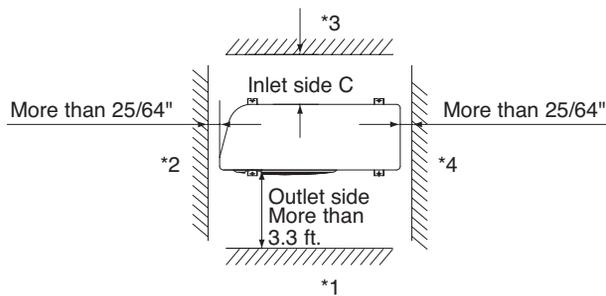
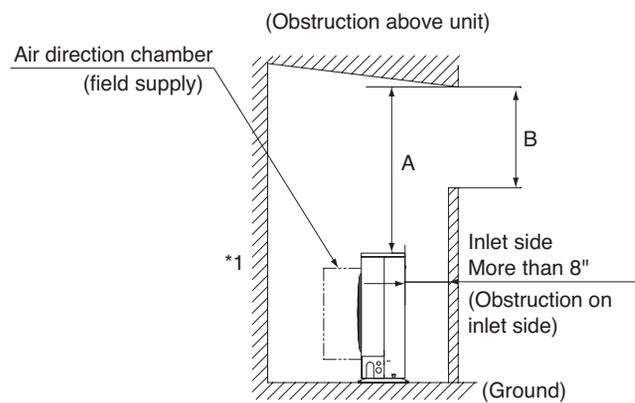

Fig. 2-2
Fig. 2-3
- allow enough room around the unit for air intake/exhaust and possible maintenance. (Fig. 2-2)
- Concerning inlet-side distance "C" (Fig. 2-2) The minimum for distance "C" is 6" if there are no obstructions on the outlet side (wall \*1 side) and \*2 or \*4 is not present. In all other cases, the minimum for distance "C" is 8".
- If wall \*1 is on the outlet side (Fig. 2-2), or if obstructions are present on all 3 sides: \*2, \*3, and \*4 (Fig. 2-2), then the minimum distance for "A" and "B" is 80" (Fig. 2-3). Even if there is no wall on the outlet side, a minimum of 3.3 ft. is required.